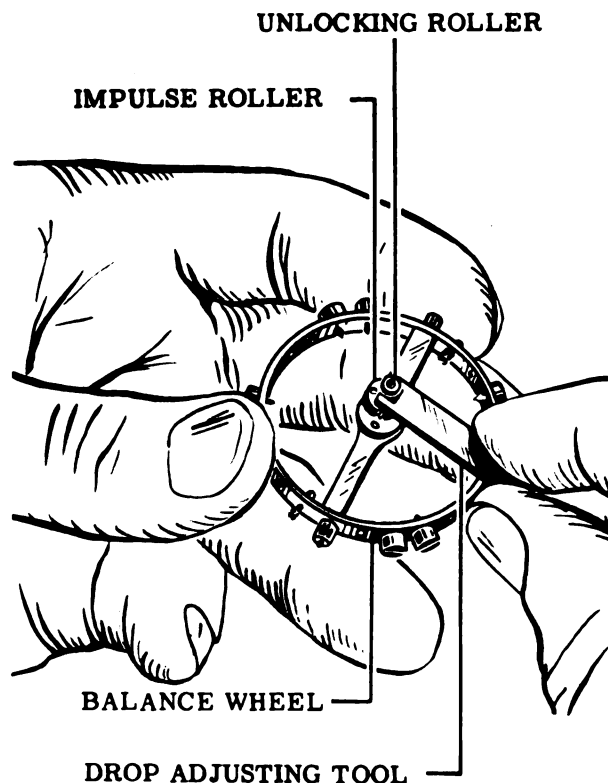

Figure 45
7. Using Tool No. 42, locate unlocking roller with unlocking jewel approximately 90 degrees ahead of the impulse jewel (clockwise of the unlocking jewel when facing it). See Fig. 45. Press unlocking roller tightly against the impulse roller on the roller press. Use Tool No. 3.